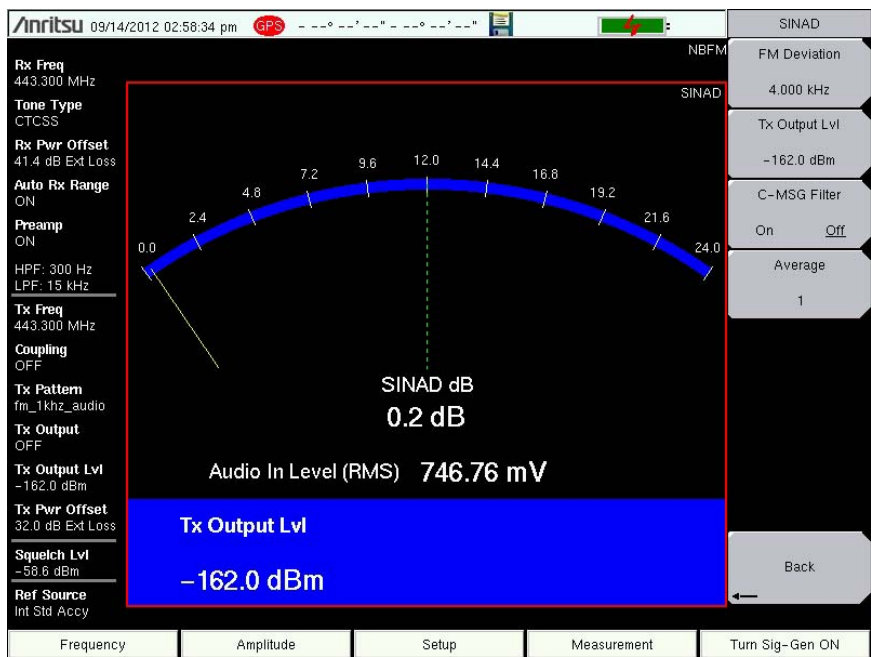

Figure 2-9. 12 dB SINAD with Signal Generator Off
7. Press the **Turn Sig-Gen ON** main menu key to start the LMR Master transmitter (Figure 2-9).